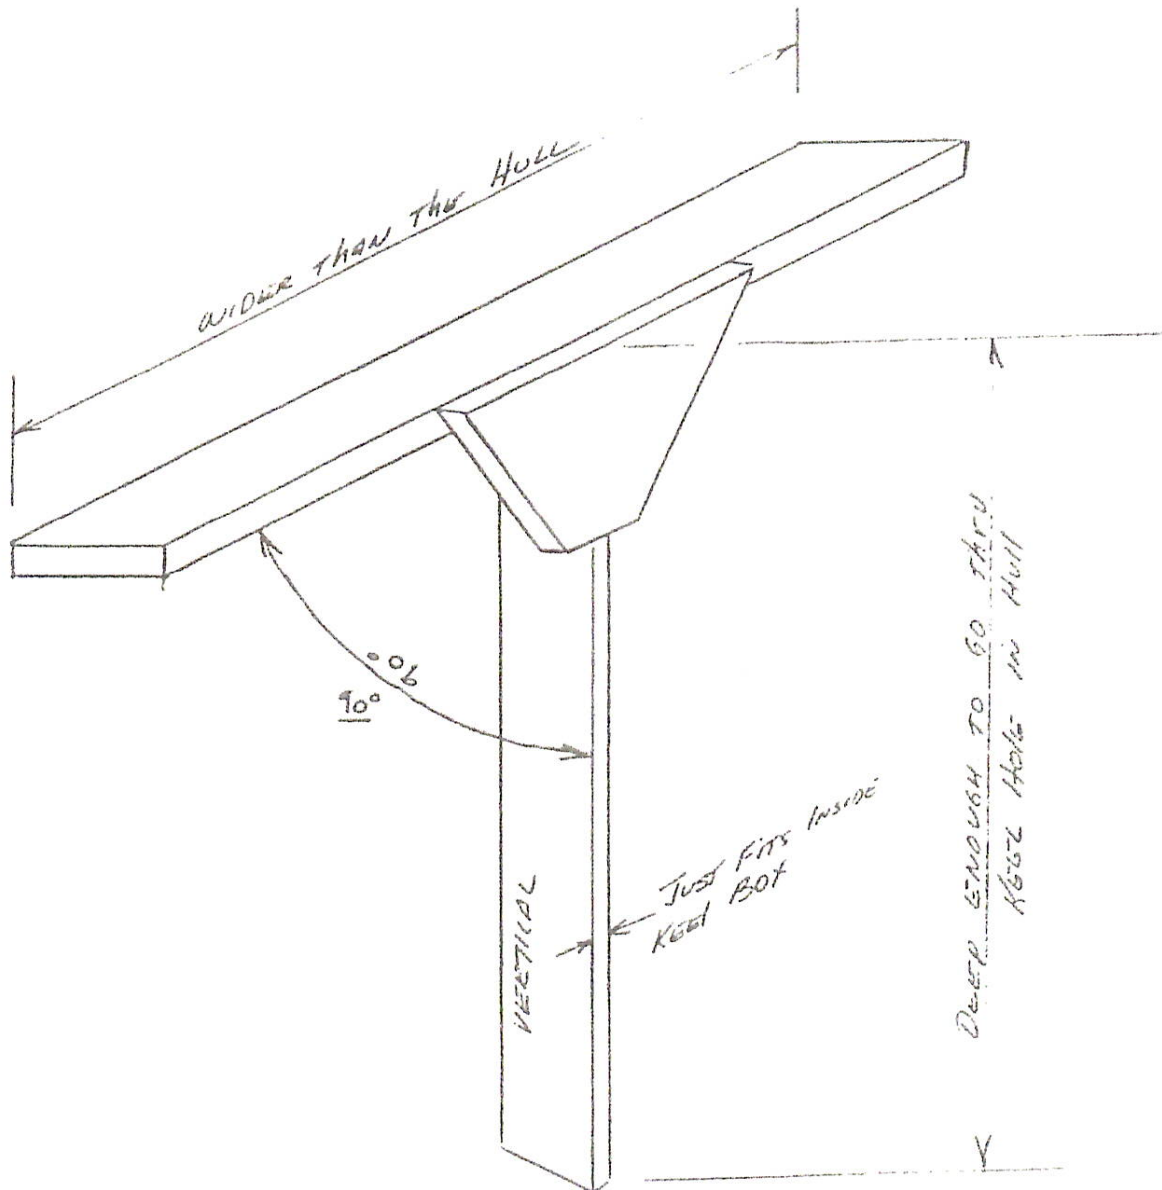

Figure 8 - Keel Box Alignment Jig
- .. The next step is to install the keel box (that little U shaped thing you epoxied together earlier) in such a way that when you install the keel it will be aligned vertically. I made the simple T shaped jig shown in Figure 8 and it's worked every time.